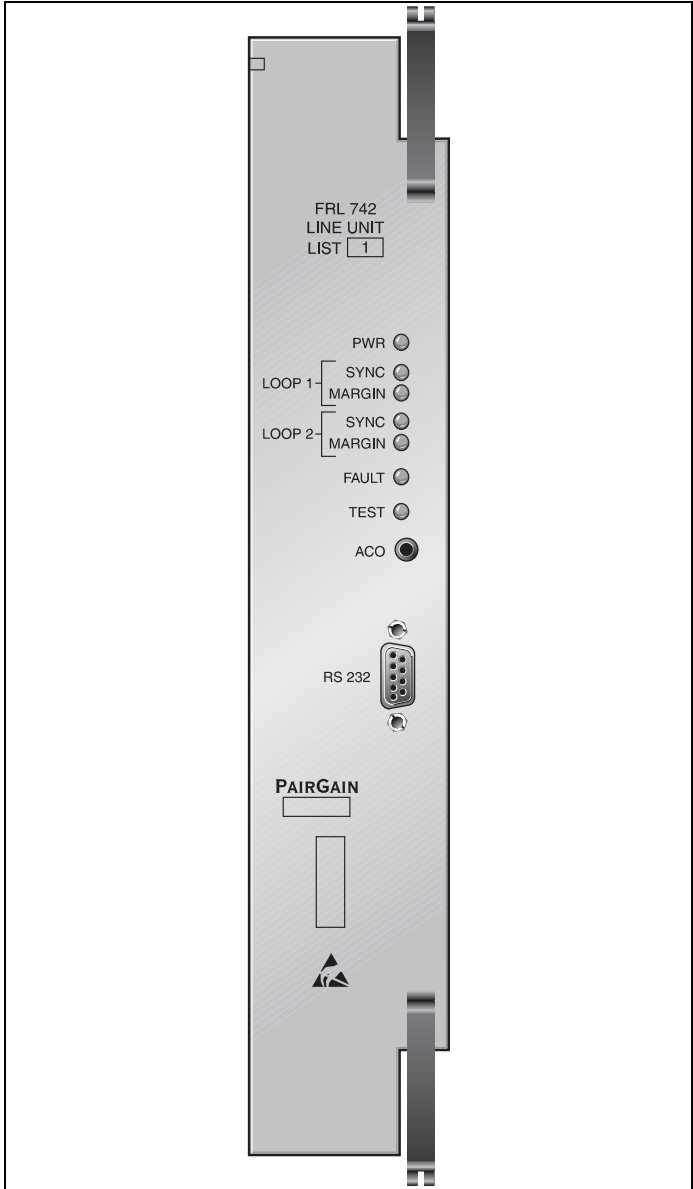

Figure 1. FRL-742 RT Line Unit Front Panel. The PairGain FRL-742 is the remote end of the PG-Flex subscriber carrier system.
7.01 The front panel of the FRL-742 contains the following switch, indicators, and connector (see Figure 1):